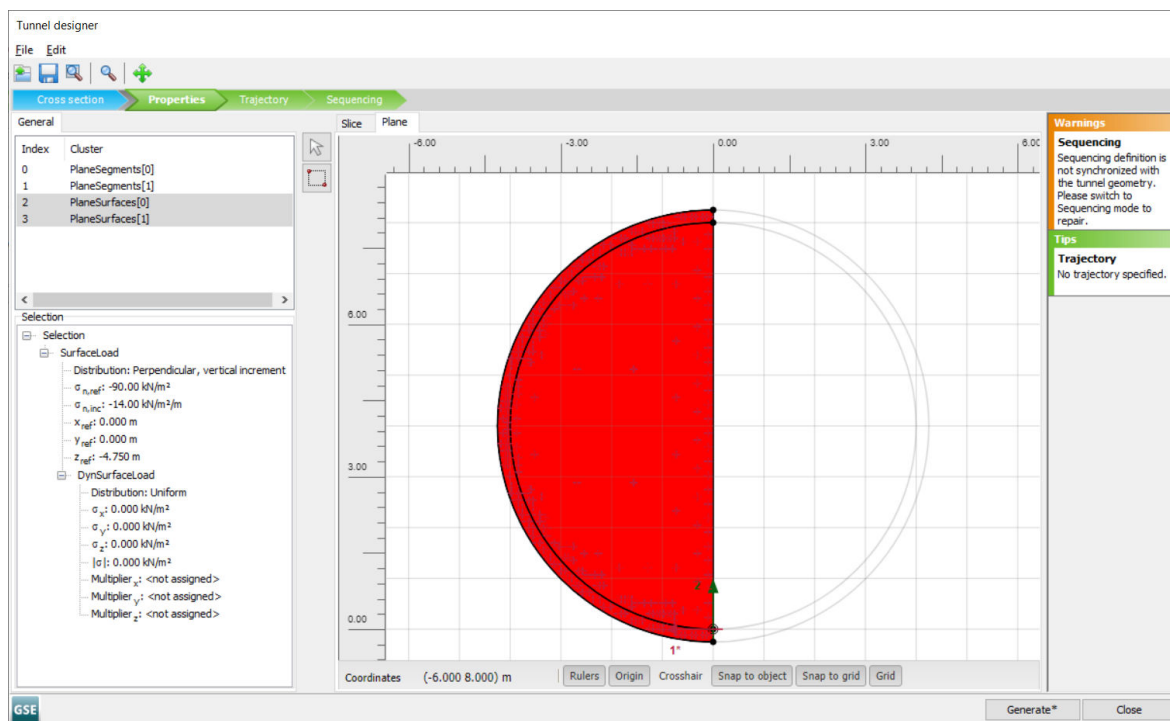

Figure 66: Plane tabsheet in the *Tunnel designer*
4. Set the $\sigma_{n,ref}$ to -90 and $\sigma_{n,inc}$ to -14 and define (0 0 -4.75) as the reference point for the load by assigning the values to x_{ref} , y_{ref} and z_{ref} (Figure 66 (on page 93)).